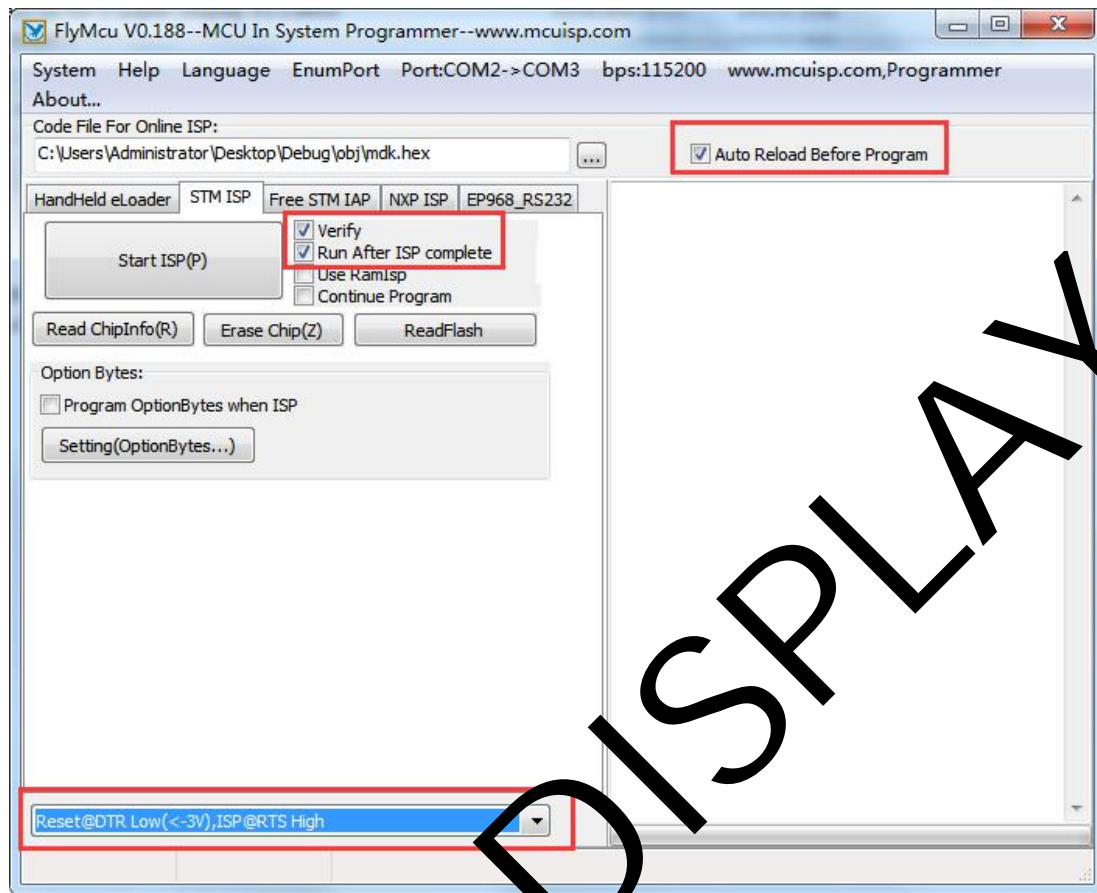

Figure 12: Configuration of Fly Mcu
4) Open the FlyMcu downloading tool and configure it as shown in Figure 12.